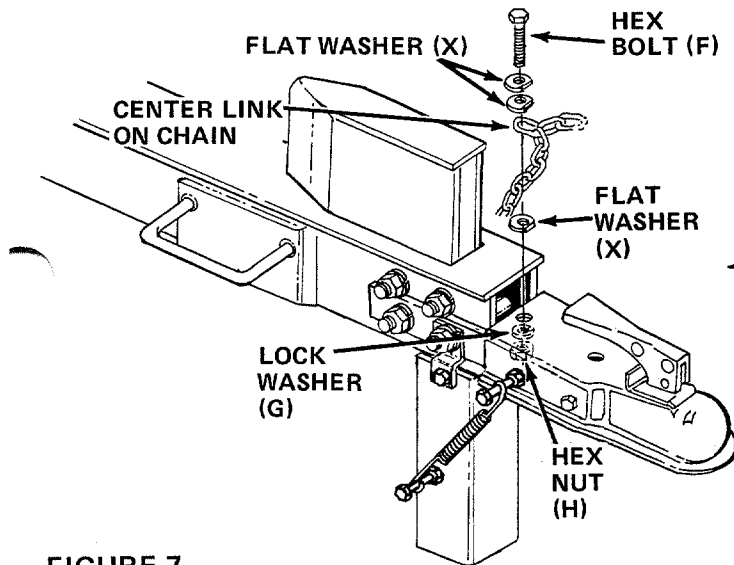

FIGURE 7
10. Find the center link of the tow hitch chain. Place two special flat washers (X) on hex bolt (F), then the center link on chain and another flat washer (X). Insert bolt down through the hole in the tow hitch assembly which is nearest the wedge. Secure with lock washer (G) and hex nut (H). See figure 7.